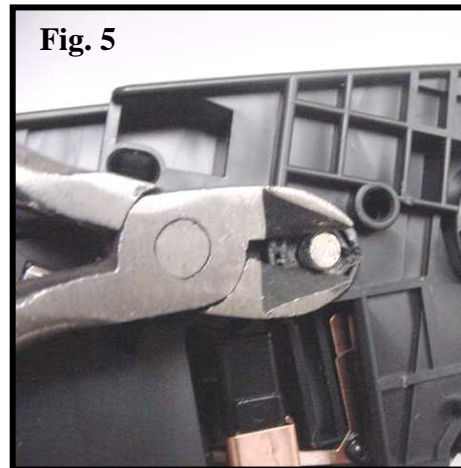

Fig. 5
5. Use pliers to remove the two pins (Fig. 5). The pins are different lengths. The long pin is located on the gear side of the cartridge, a shorter pin is located on the opposite side.